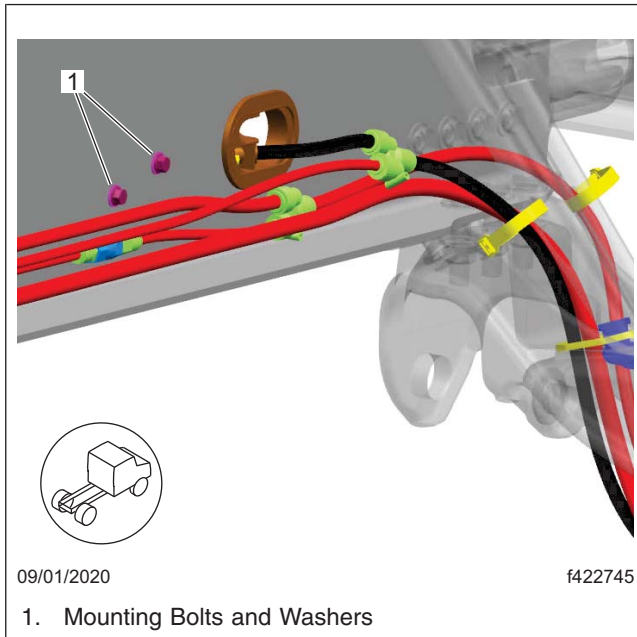
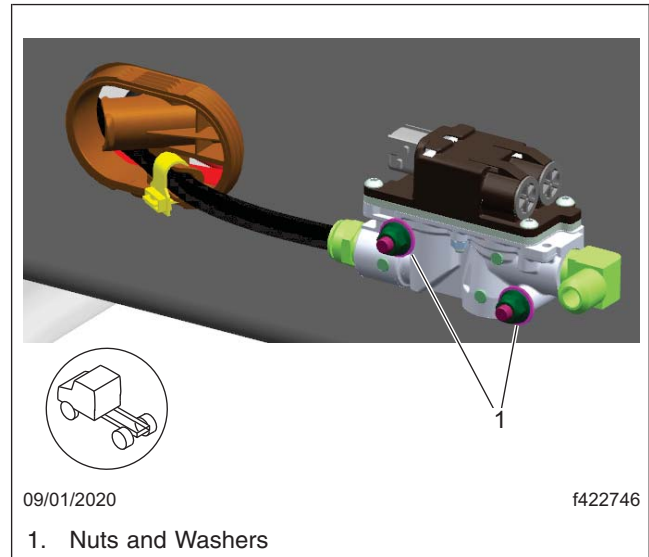

Fig. 12, Modulator Valve Fasteners, Inside Frame Rail View
Fig. 13, Modulator Valve Fasteners, Outside Frame Rail View
11. Use a 1/2-inch socket wrench along with the new bolts, spacers, and washers (supplied in the kit) to install the modulator on the vehicle. Tighten the bolts 11 lbf-ft (15 N·m). See Fig. 10, Fig. 11, Fig. 12, and Fig. 13.